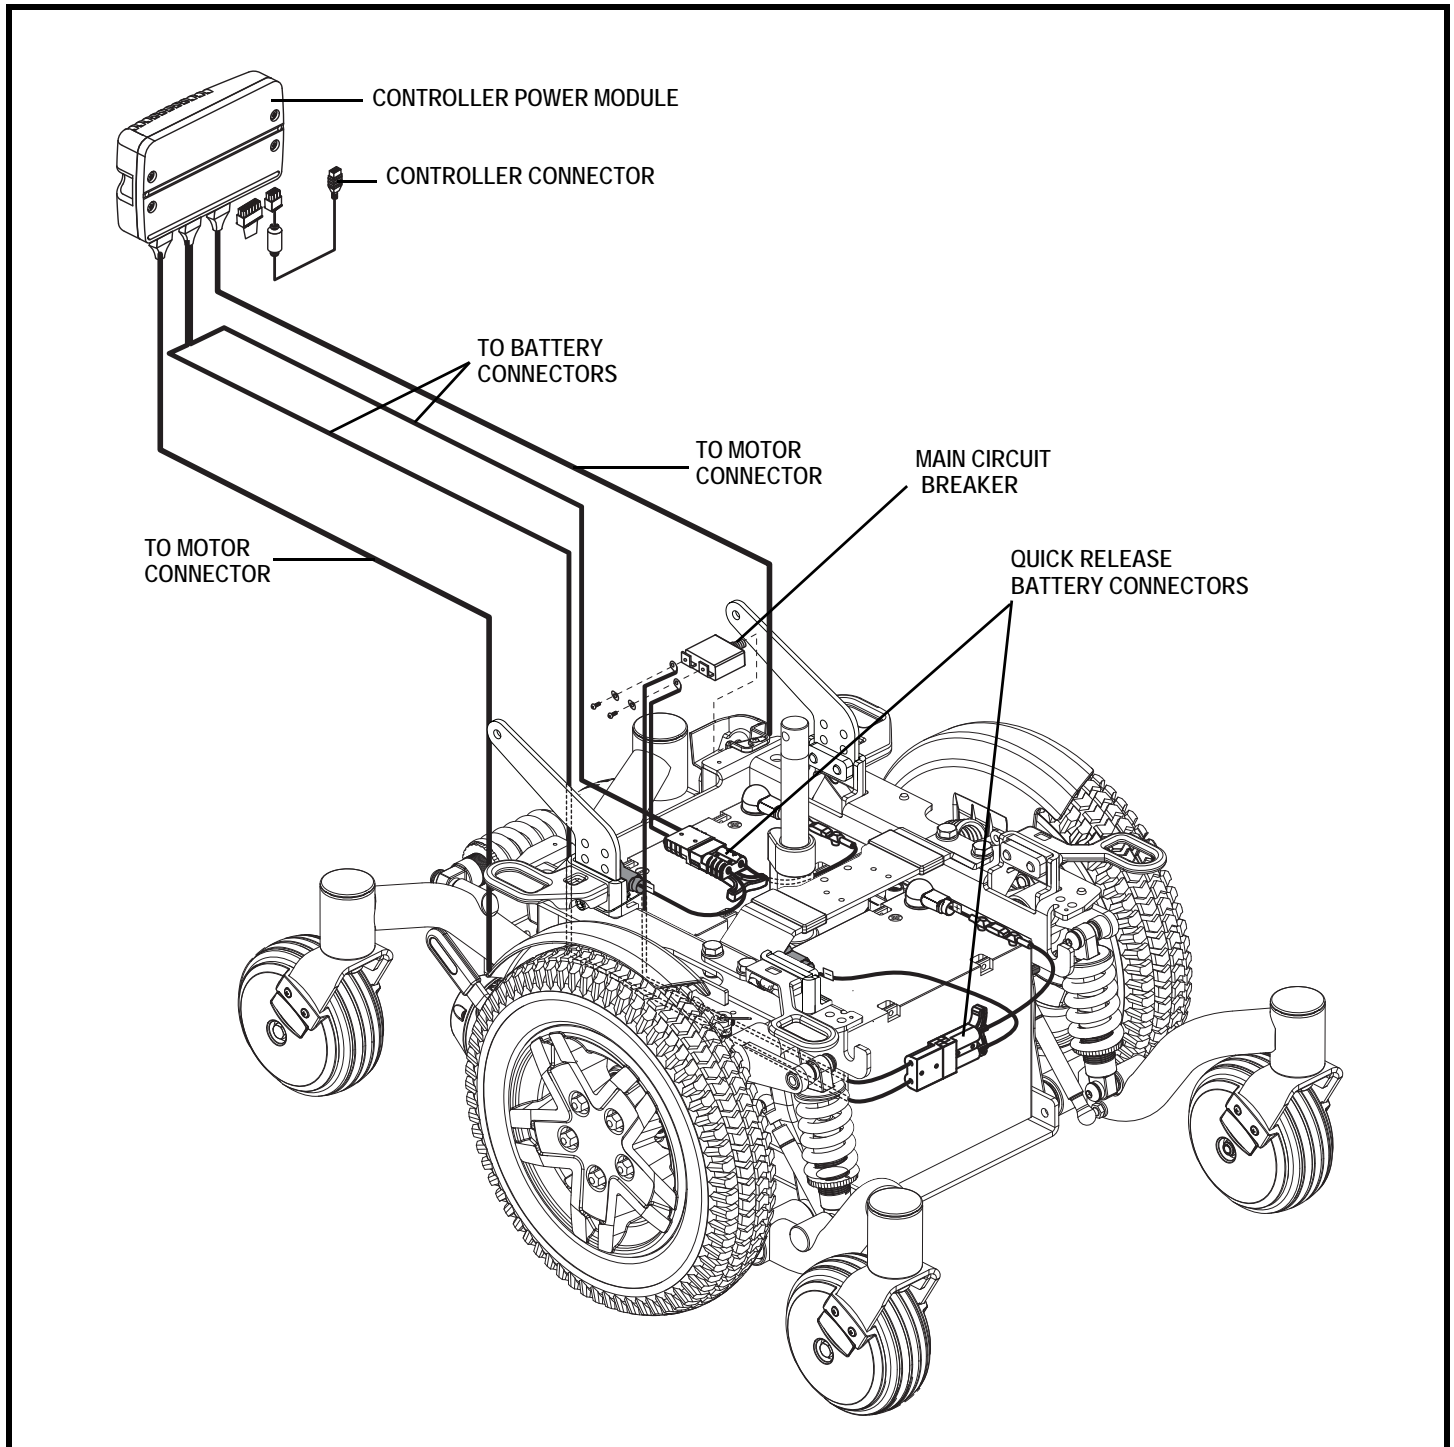

Figure 3. Quantum Q4 Electrical Components
The electrical components consist of the controller assembly, the batteries, and the motors. The batteries, motors, and controller power module (if equipped) are located on the power base assembly. The controller is located on the seat assembly. Connectivity between the controller and the motors, batteries, and the battery charger is provided by one or more wiring harnesses. **See figure 3.**
4. Plug the controller connector into the rear of the power base. **See figure 3.**